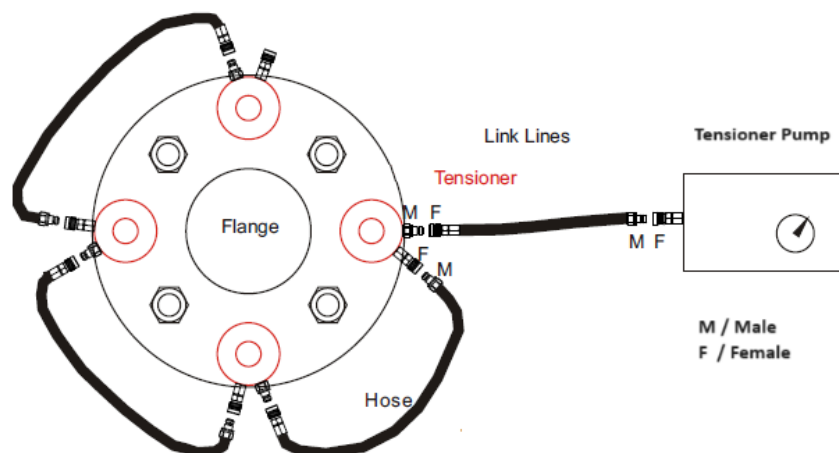

Figure 4 – Typical Hydraulic Hose Arrangement
- 5.2.2 Connect the hydraulic hoses as shown in Figure 4.